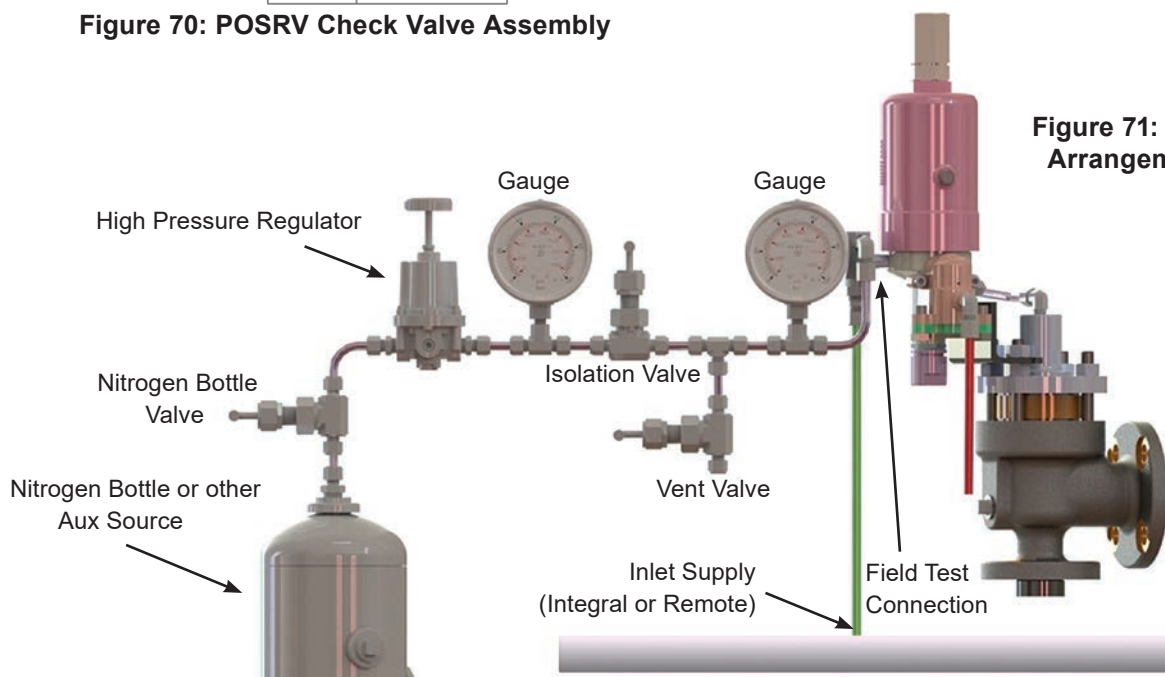

Figure 71: Typical Installation Arrangement with Auxiliary Supply
- Connect **Field Test Arrangement** to Field Test Connection (Figure 71).